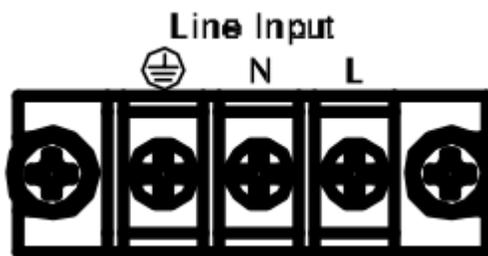

Fig 2-1 34000E Series AC Input Connection
2.2.2. Refer the drawing on the rear panel of 34000E Series high power load in Fig 2-1.